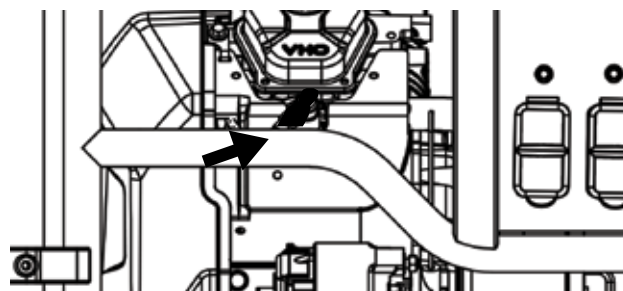

Figure 21 - Remove Spark Plug Boot (WPro12000 shown)
3. Remove the spark plug boot by firmly pulling the plastic spark plug boot handle directly away from the engine (see Figure 21).